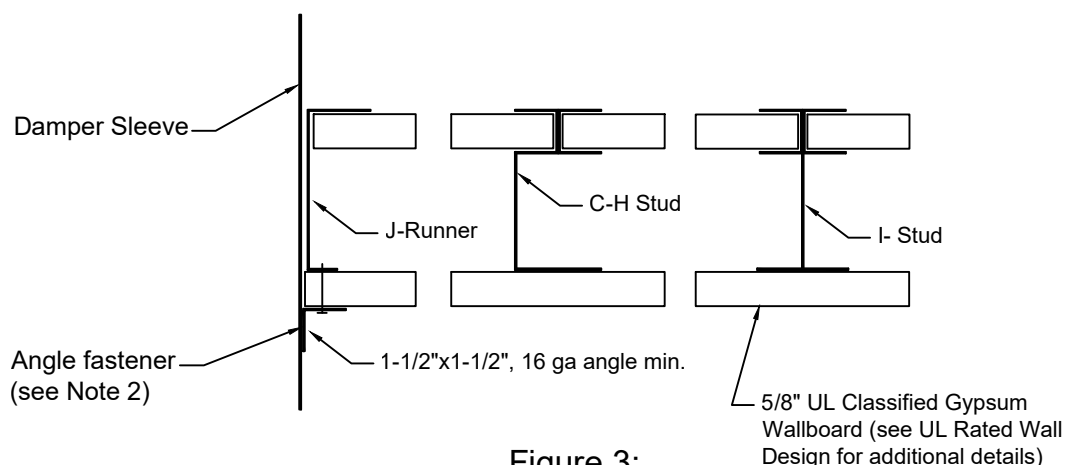

Figure 3:
- Fire damper and sleeve assemblies 80" x 50" (2032x1270), 50" x 80" (1270x2032), or 40"x84" (1016x2134) and smaller can be installed with retaining angles on one side of the partition (see fig. 3 & 4 on page 2). Retaining angles must be attached to the partition and the sleeve. Larger damper assemblies require retaining angles on both sides of the partition.